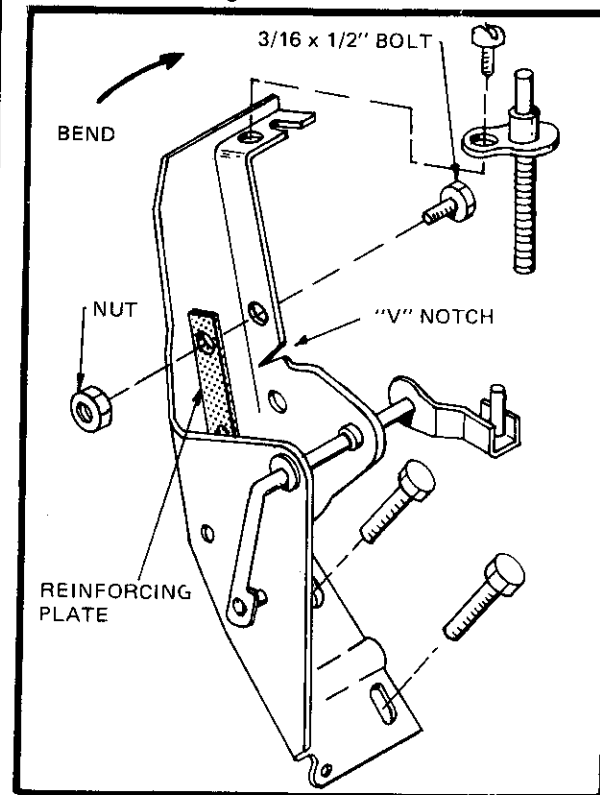

Figure 20
- ☐ Cut a small "V" notch out of the side of the bracket just above the down shift linkage arm. Bend the bracket upwards until it just clears the master cylinder. Drill two holes, $3/16$ inch, for the bracket reinforcing plate. Secure with $3/16 \times 1/2$ inch bolts and nuts. Attach accelerator cable and check for free movement. Bend the bracket slightly to the side to clear any engine components. (Figure 20)